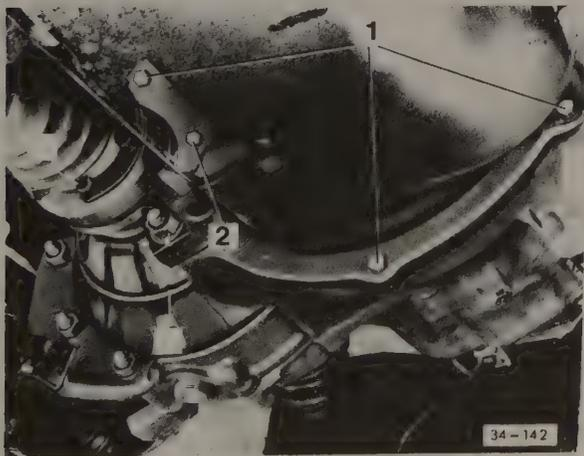

Fig. 6-17. Clutch cover plate bolts at **1** and small cover plate bolts at **2**.
- Remove the bolts from the clutch cover plate as indicated in Fig. 6-17 (the cover plate will remain on the engine when the transaxle is removed). Remove the bolts from the small cover plate (located behind the left drive flange).